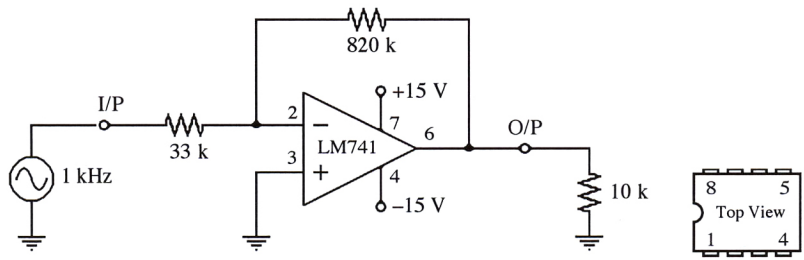

Figure 1-4. Inverting Amplifier Circuit
3. Simulate the circuit of Figure 1-4 using software. Use a generator set to 500 mV and 1.0 kHz.
- Connect the circuit of Figure 1-4 using an 8-pin LM741 op-amp.
3. Calculate the theoretical R_i , R_o and A_v for the circuit of Figure 1-4 and compare these values to those determined from measurements.